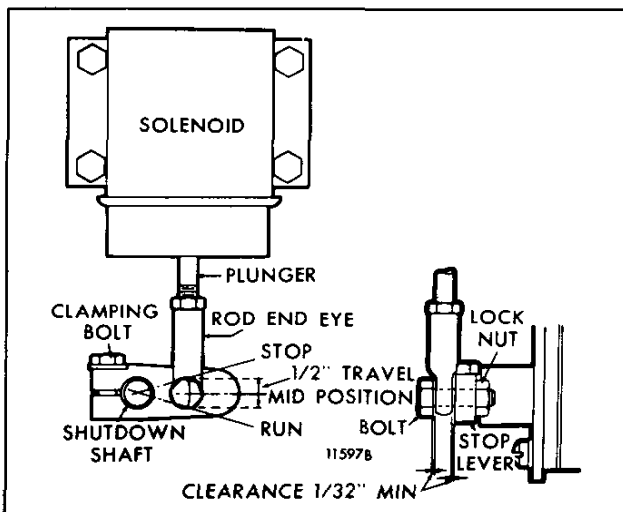

Fig. 8 - Typical Variable Speed Governor Lever Position
1. Remove the bolt connecting the rod end eye (variable speed governor) or the right angle clip (limiting speed governor) to the stop lever (Figs. 8 and 9). Align and clamp the lever to the shutdown shaft in such a way that, at its mid-travel position, it is perpendicular to the solenoid plunger. This assures that the linkage will travel as straight as possible. The solenoid plunger has available 1/2" travel which is more than adequate to move the injector control racks from the *full-fuel* to the complete *no-fuel* position and shutdown will occur prior to attaining complete travel.